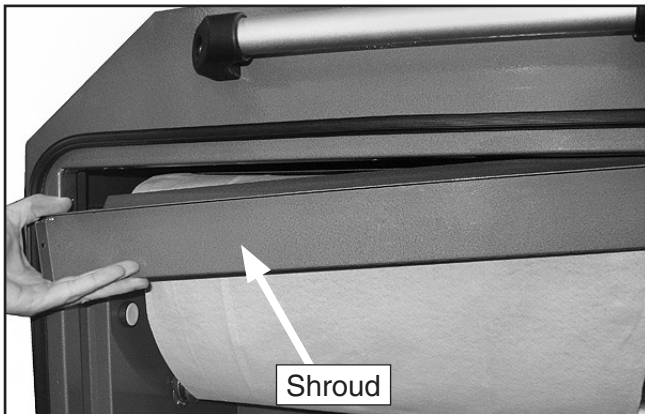

Figure 31. Recovery cabinet shroud.
9. Remove the five Phillips head screws and the recovery cabinet shroud (**Figure 31**).